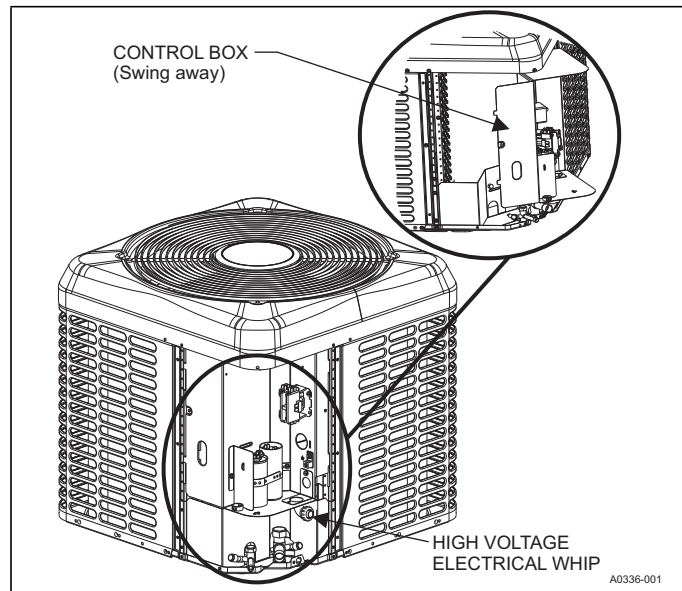

Figure 12: Outdoor unit swing away control box
The control box can then swing open from the left by rotating on the right side pivots for easy service of refrigeration components. If no wiring is in or routed through the control box, it can be removed from the unit by lifting slightly, tilting the top hinge out, and lifting the bottom hinge out. During the installation, route the low-voltage wiring for the thermostat along the unit whip to help facilitate the swing away feature of the control box. See Figure 12.
4. Route wires from disconnect through power wiring exit provided and into the unit control box as shown in Figures 12, 13, 14, and 15.